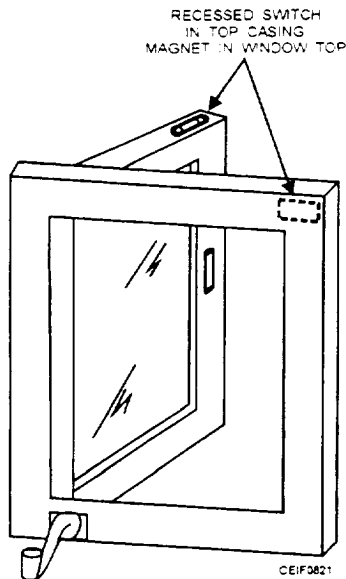

Figure 8-21.—Recessed magnetic contacts in casement window.
5. A switch and magnet are installed preferably in the top of the window and underside of the upper window casing, where they will be least noticeable (fig. 8-21). If the window frame is not thick enough to accept the magnetic section of the detector, the detector can be mounted in the side frame.